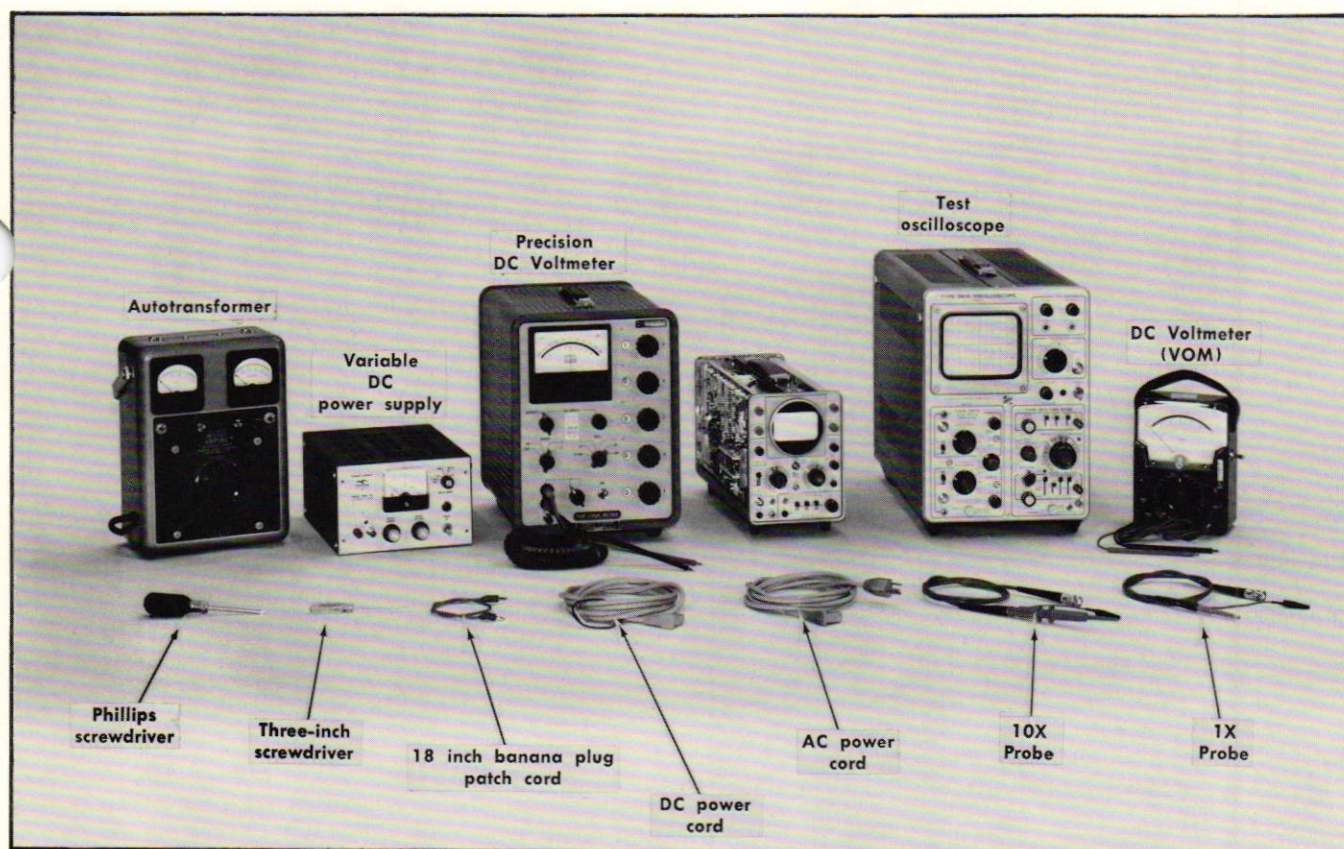

Fig. 5-1. Equipment required for steps 1 through 11.
Steps 1 through 7 are not applicable to a performance check. Set controls as given beneath Fig. 5-1 and begin with step 8.
a. Equipment required for steps 1 through 11 is shown in Fig. 5-1.